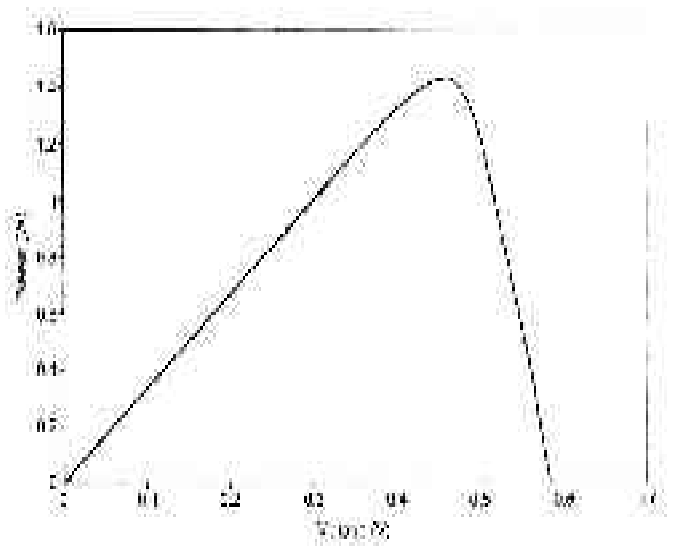

Figure 2: A typical power output vs. voltage curve for a silicon photovoltaic cell.
- *Maximum Power Point* (P_{Max}) – The point on the I-V curve at which maximum power is being produced by the cell. Note that since the graph is not a straight line, the power produced will vary depending on the operating voltage (figure 2); although the voltage at any point on the graph can still be calculated using $P=IV$. P_{Max} occurs on the 'knee' of the I-V curve.